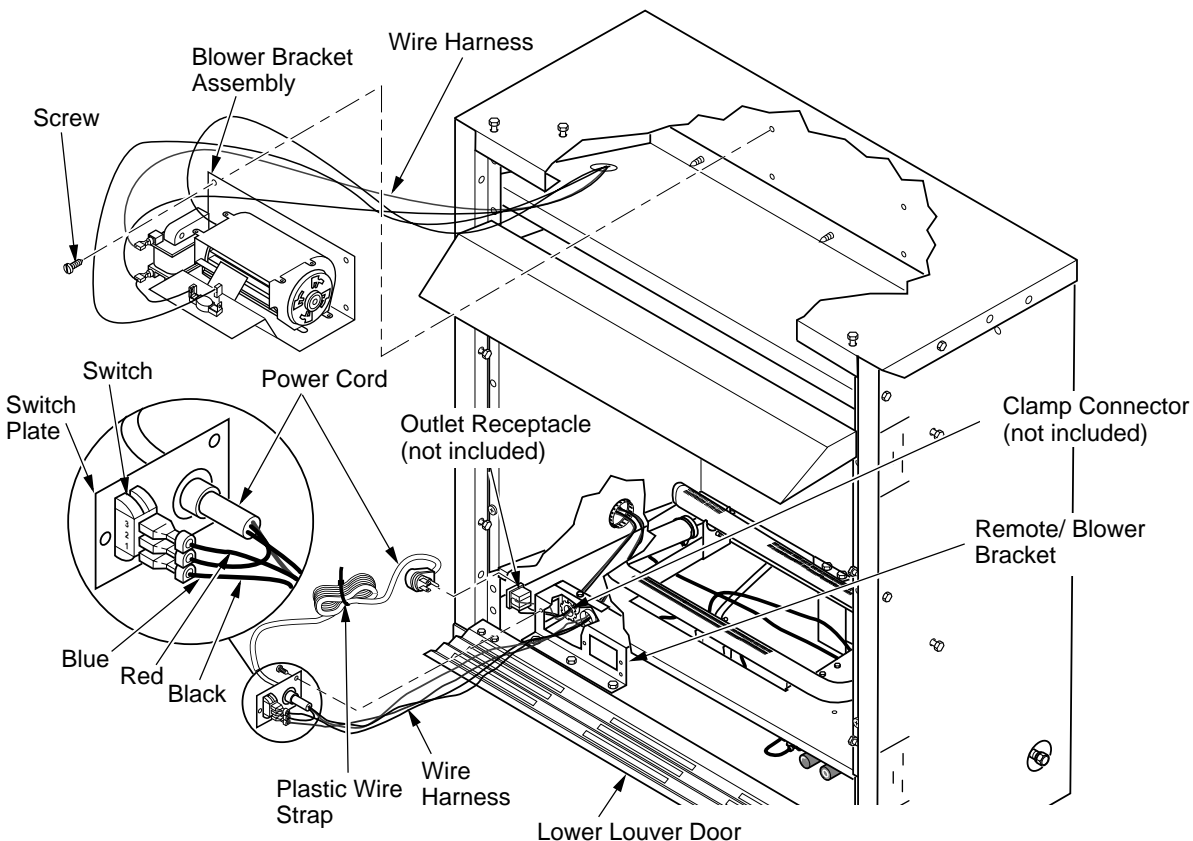

Figure 17 - Installing Blower Bracket Assembly
1. Install snap bushing from blower kit into one hole on rear of remote/blower bracket (see Figure 17). The other hole is for a strain relief clamp (not supplied) to secure incoming electrical supply.
4. Plug power cord to outlet receptacle (not provided) as shown in Figure 17. Wind extra cable of power cord and tie up with plastic wire strap (see Figure 17). Set cable bundle between the remote/blower bracket and outer casing, away from the burner.